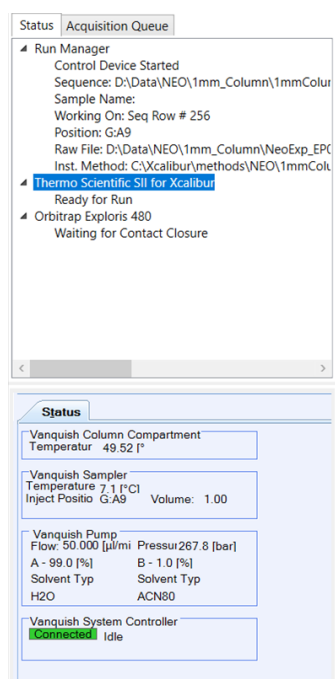

Figure 62: The Xcalibur status and mini ePanel display shown after an attempt has been made to inject from an empty vial position.
- Right click “Thermo Scientific SII for Xcalibur” in the status window (Figure 62) and select “Turn device off” and then “Turn device on”.